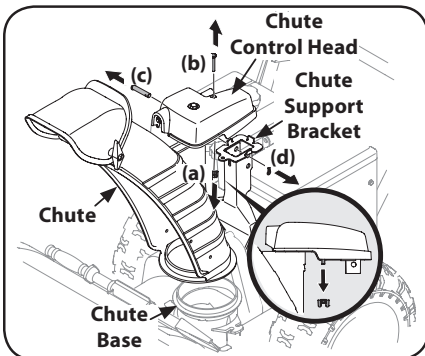

Figure 2-15
1. Remove wing nut (a) and hex screw (b) from chute control head and clevis pin (c) and cotter pin (d) from chute support bracket. Position chute assembly (forward-facing) over chute base. See Figure 2-15.